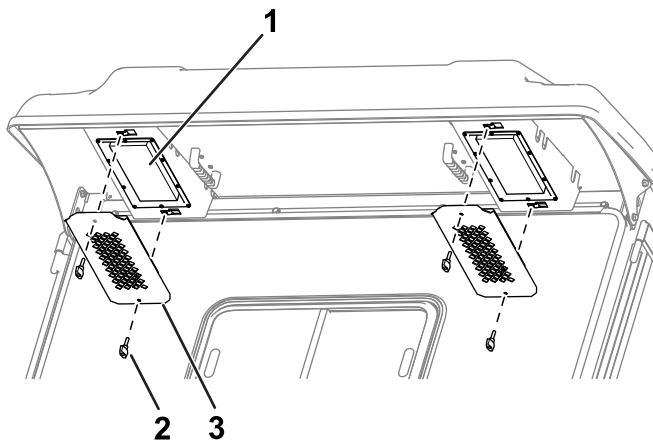

Figure 83
1. Remove the knobs and grates from the cab rear overhang (Figure 83).
4. Use the knobs and grates to install the filters into the cab (Figure 83).